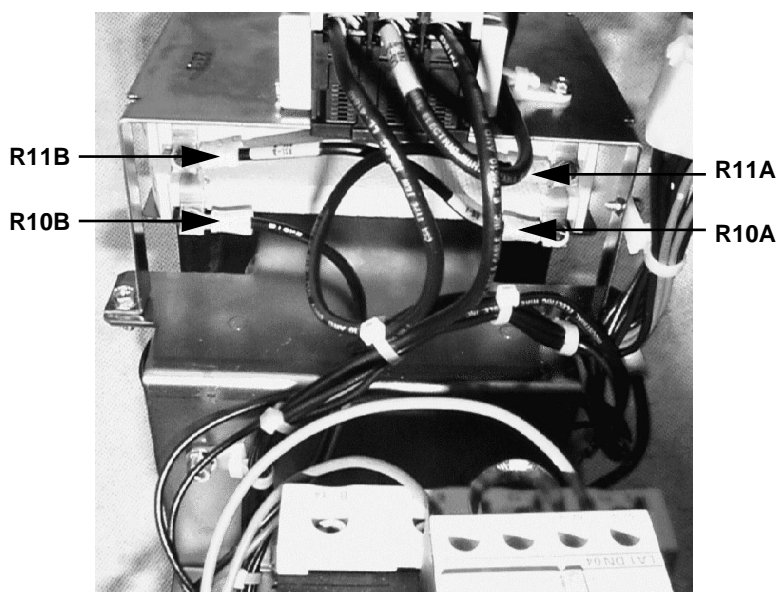

Figure 4.2.38: Precharge Resistor Wiring
8. Reattach the four power connections (see Figure 4.2.38 on page 4.2.69). Torque all power connections to 8 lb-in (0.9 N•m)